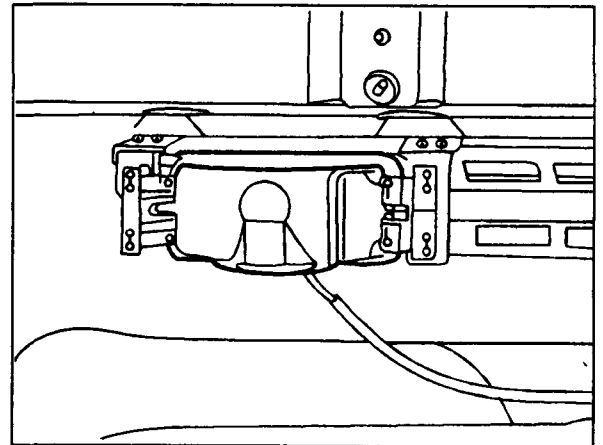

Figure 6
16. Install the combined 6-pin plug/socket (a, Figure 6) in the vehicle and insert between the 4-pin socket on the headlamp assembly (b) and the 4-pin standard production plug (c).